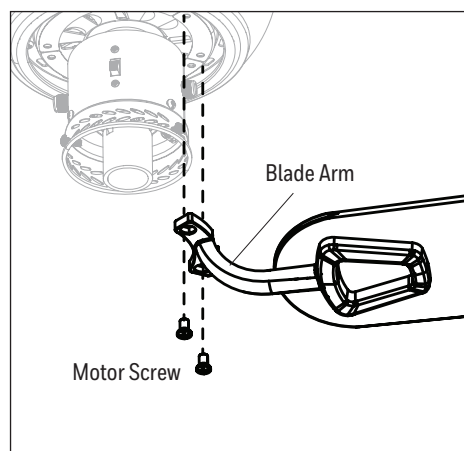

Figure 4.5
5. Install the blade arm to the underside of the motor assembly with previously removed motor screws. Tighten each blade arm completely before moving to the next (Figure 4.5).